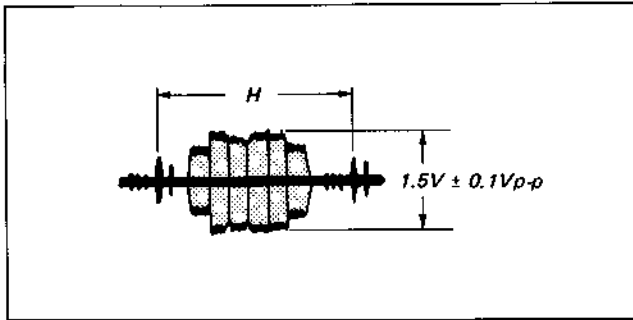

Fig. 4-28. ACC adjustment
- (3) Adjust T4 for minimum output level.
- (4) Adjust RV13 for  $1.5V \pm 0.1 V_{p-p}$ . (See Fig. 4-28).